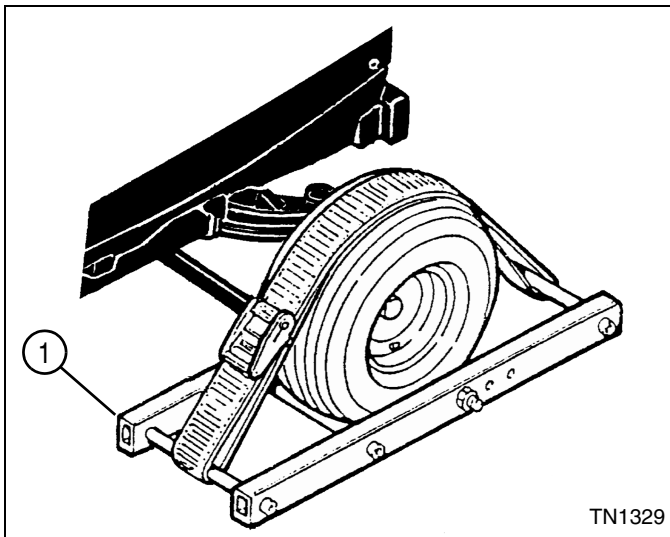

Figure 5-6
See Figure 5-6.
2. Install wheel restraints (1) to both front wheels. (See Figure 5-6.)
6. Install wheel restraint. (See Figure 5-6.)